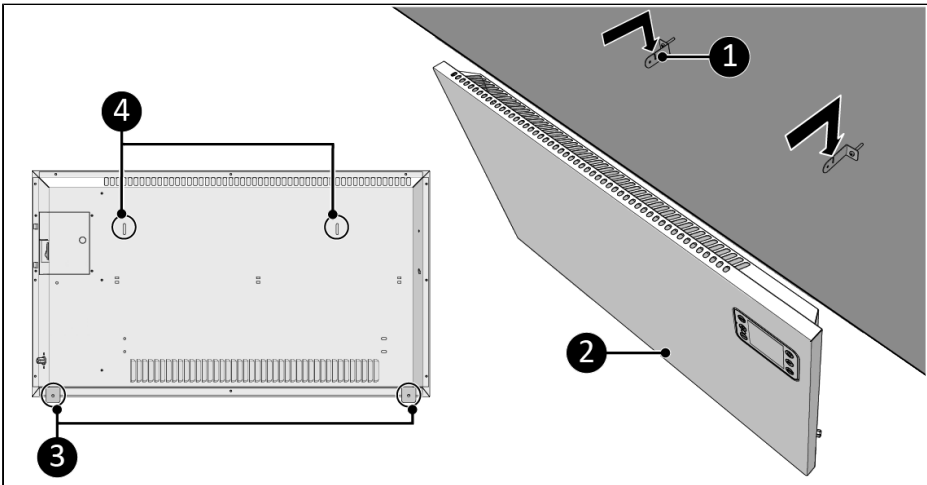

Figure 29.
9. Place the bracket holes (Figure 29, pos. 4) over the wall brackets (Figure 29, pos. 1).
10. Let the device (Figure 29, pos. 2) drop into the openings of the wall brackets (Figure 29, pos. 1).
11. Use the device brackets (Figure 29, pos. 3) to mark the bottom hole position on the wall.
12. Remove the device from the wall brackets (Figure 29, pos. 1)